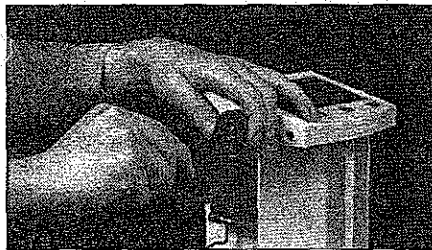

Figure 44
2. Remove the shoulder screw to separate the arm from the enclosure as in Figure 44.